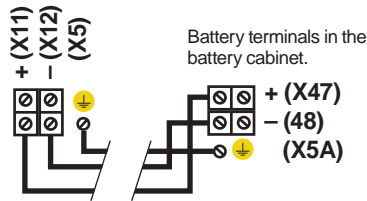

Fig. 22. Connection of the battery cabinet to the system.
- Connect the cable bundle, in general it is supplied, between the terminals (X11) - (X12) of the system and (X47) - (X48) of the battery or rack cabinet, by respecting the colour of the cables (red for (+), black for (-) and green-yellow for the earth bonding (⚡)) as well as the polarity stated in the labelling of the equipment (see Fig. 22).